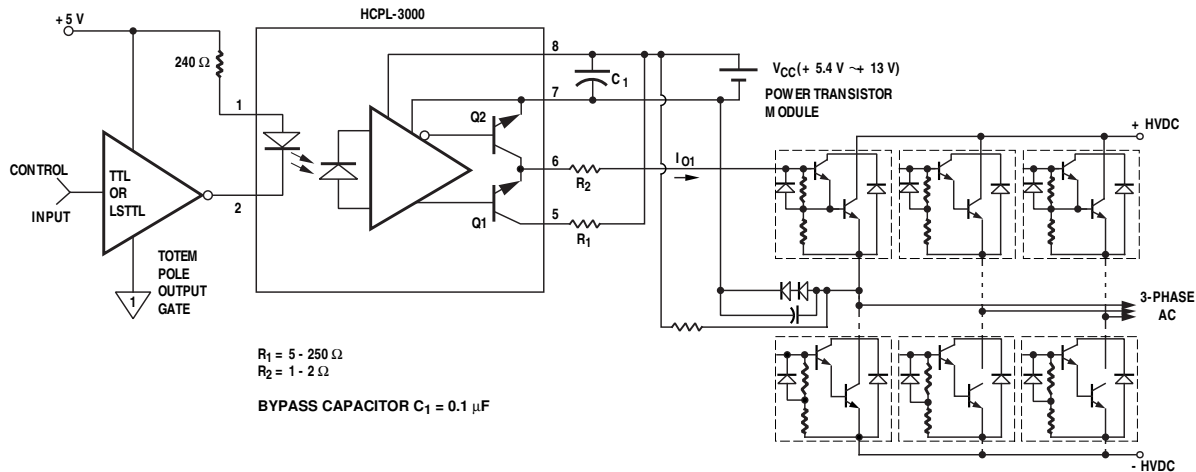

Figure 1. Recommended output transistor protection and typical application circuit.
THE USE OF A 0.1 μ F BYPASS CAPACITOR CONNECTED BETWEEN PINS 8 AND 7 IS RECOMMENDED. ALSO, CURRENT LIMITING RESISTORS ARE RECOMMENDED (SEE FIGURE 1, NOTE 2, AND NOTE 7).
large amounts of current. Figure 1 describes a recommended circuit design showing current limiting resistors R_1 and R_2 which are necessary in order to
- R_1 sets the base current (I_{O1} in Figure 1) supplied to the power bipolar device. R_2 limits the peak current seen by Q2 when the device is turning off. For more applications and circuit design information see Application Note "Power Transistor Gate/Base Drive Optocouplers."